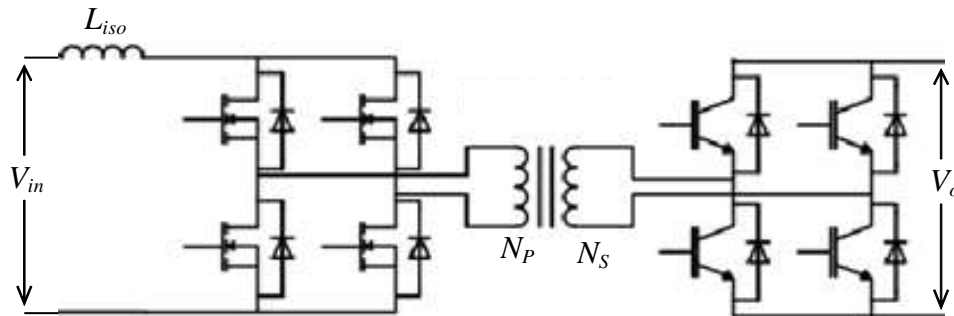

Fig. 6 Isolated Boost Converter
**Suggested Topology:** Isolated Boost Converter as shown in Fig. 6